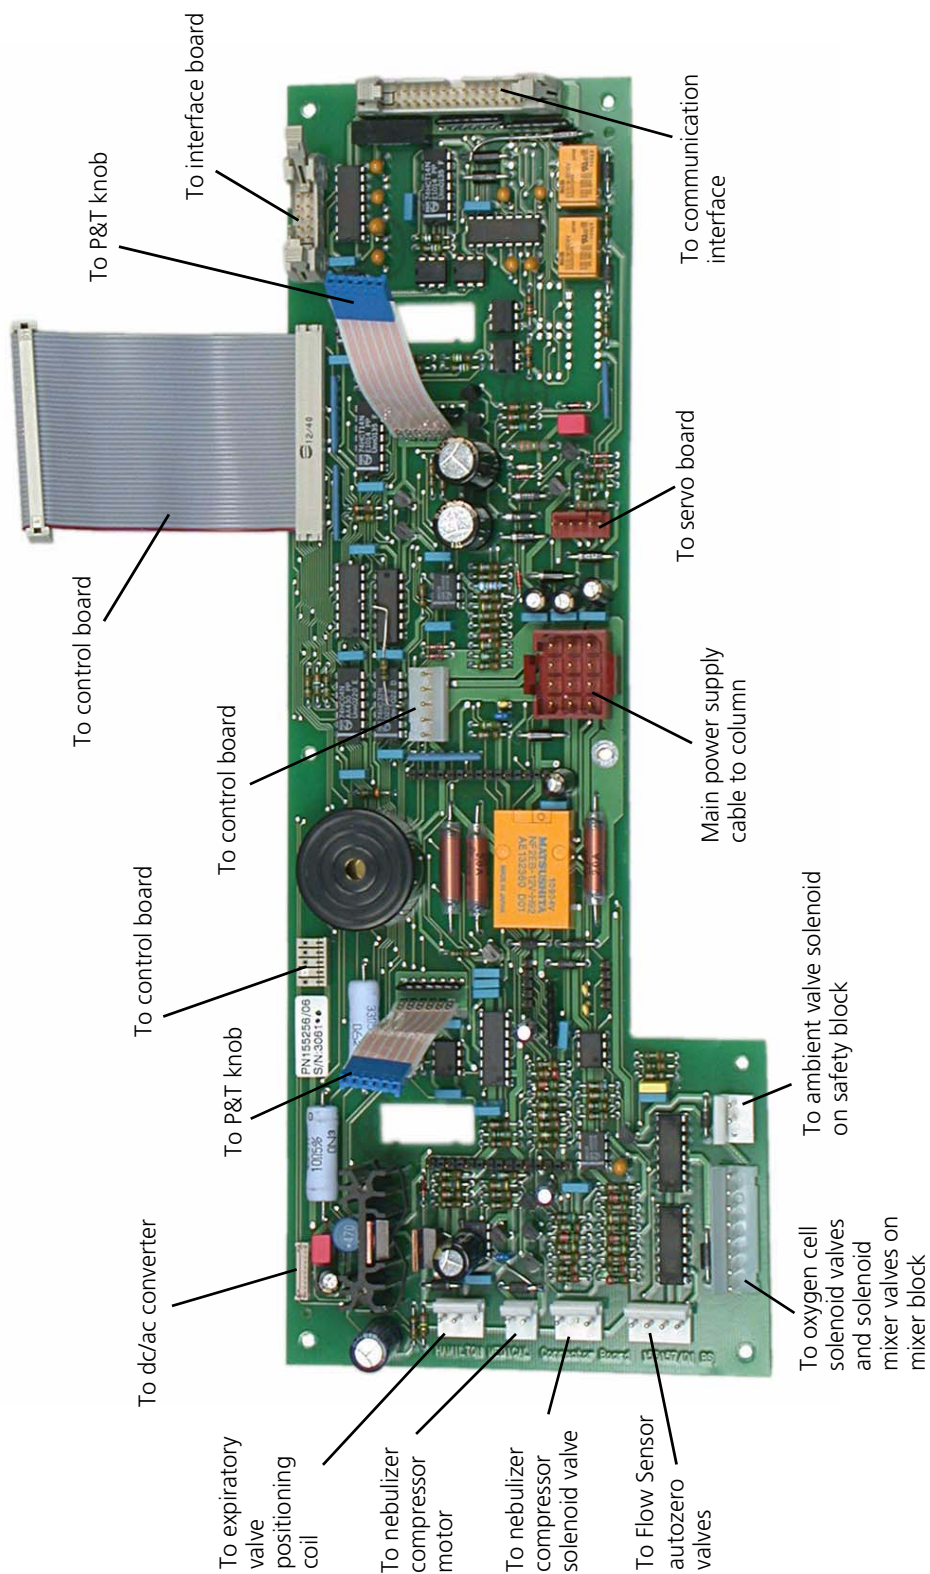

Figure 11-44. Cable connections to connector board PN 155256 Revs 0 to 8
- Figure 11-44 on page 11-42 shows connections for connector boards revisions 00 to 08.